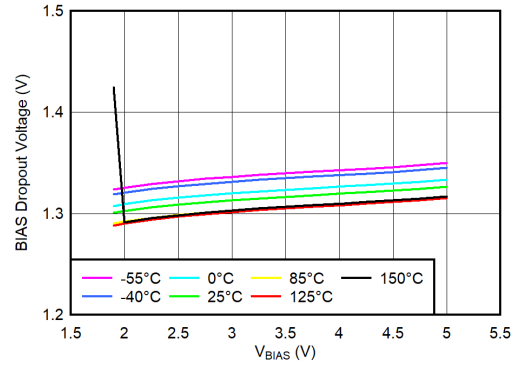

图 6-29. V_{IN} Dropout Voltage vs ($V_{BIAS} - V_{OUT}$) and Temperature (T_J)
(1) Adjustable devices tested at 0.8 V; resistor tolerance is not taken into account.
(2) Dropout is defined as the voltage from V_{IN} to V_{OUT} when V_{OUT} is 3% below nominal.
(3) 3.25 V is a test condition of this device and can be adjusted by referring to Figure 6-29.